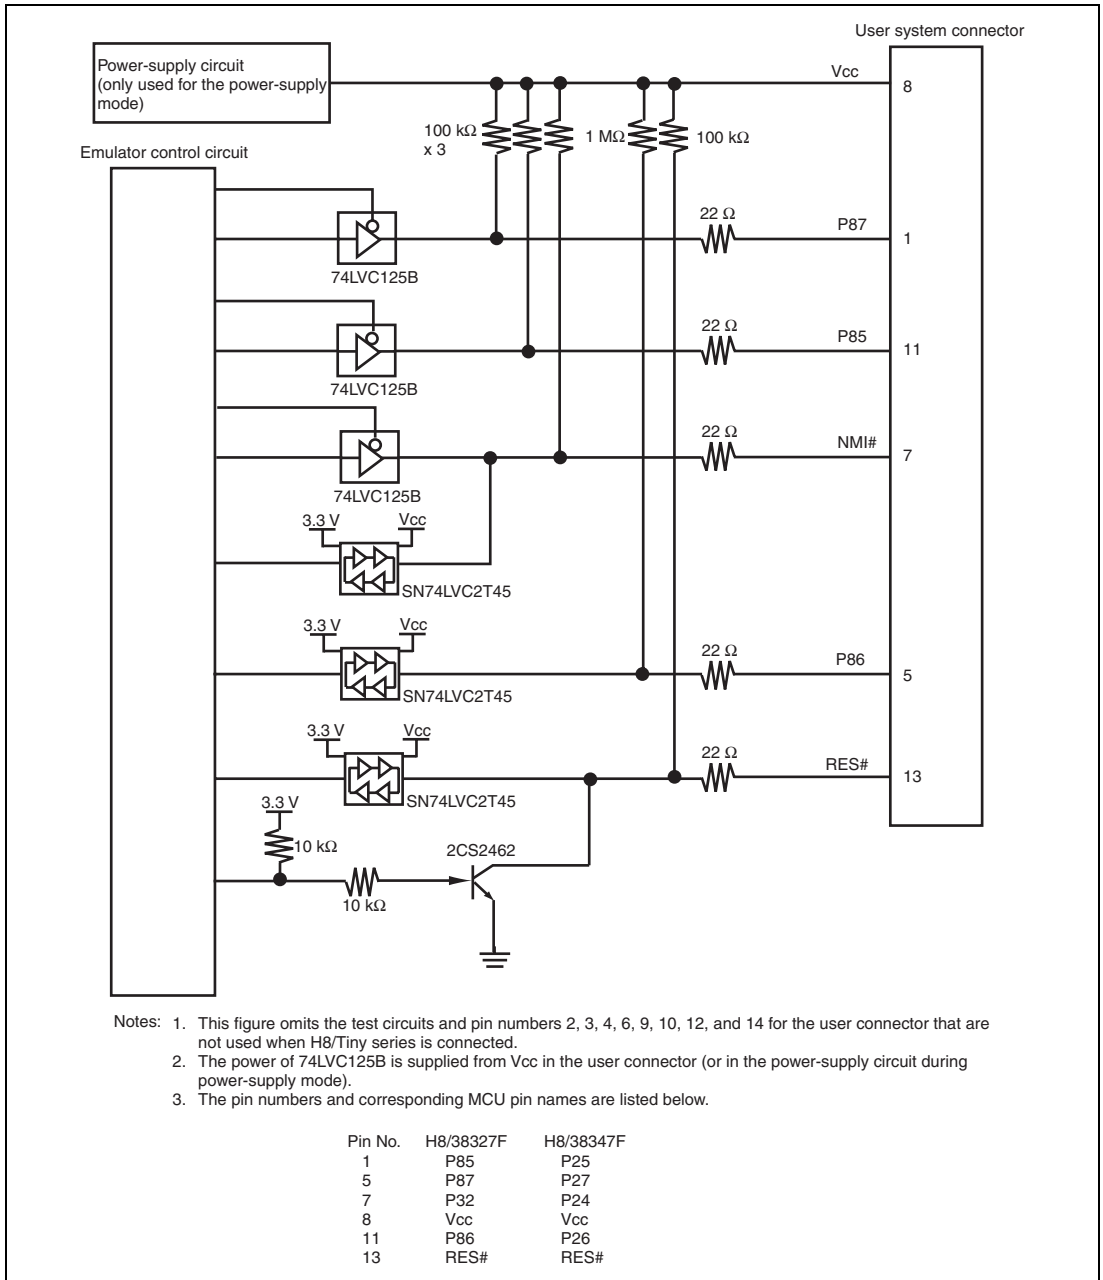

Figure 4.8 Interface Circuit in the E8a Emulator (Reference)
6. Figures 4.8 shows the interface circuit in the E8a emulator. Use these figures as references when determining the pull-up resistance value.